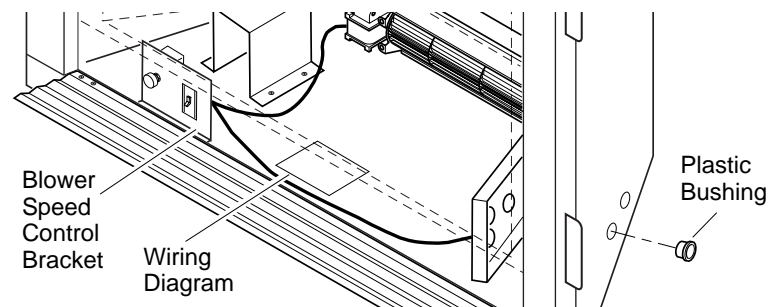

Figure 33 - Installing Plastic Bushing and Wiring Diagram Sticker
- If your fireplace system is installed as a freestanding unit with an accessory mantel, determine whether the power cord will exit the left side or the right side of the firebox. Install one plastic bushing provided into the 1 1/2" hole in the outer casing through which the power cord will exit. Install the second plastic bushing provided into the floor support bracket if exiting through the right side (see Figure 33). Route power cord through (both) plastic bushing(s) and plug the power cord into a properly grounded 3-prong wall receptacle near the firebox.
10. Peel off the backing paper and stick the supplied wiring diagram decal on the firebox bottom approximately 3" to the right of the blower speed control bracket (see Figure 33).